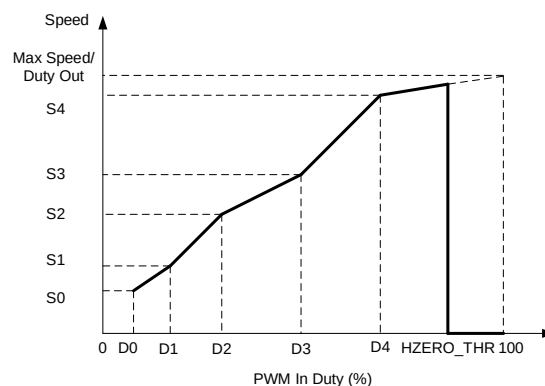

Figure 6: Curve Configuration (SPD_HZERO = 1)
- If SPD_HZERO = 1, the speed is at 0 (see Figure 6).